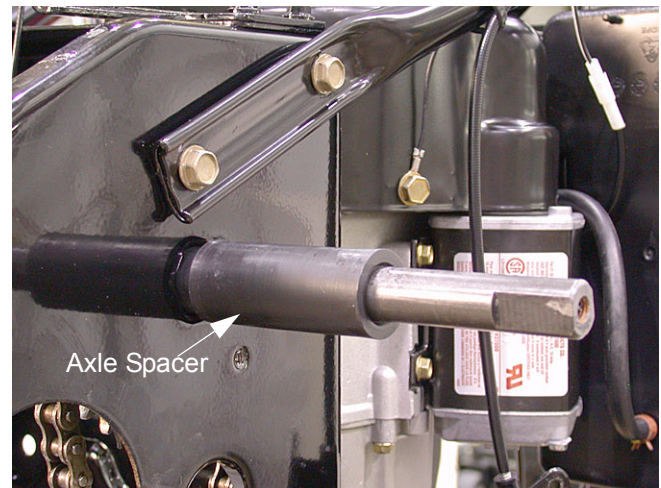

Figure 31
- 13.4. Remove the spacers on each end of the axle. See Figure 31.